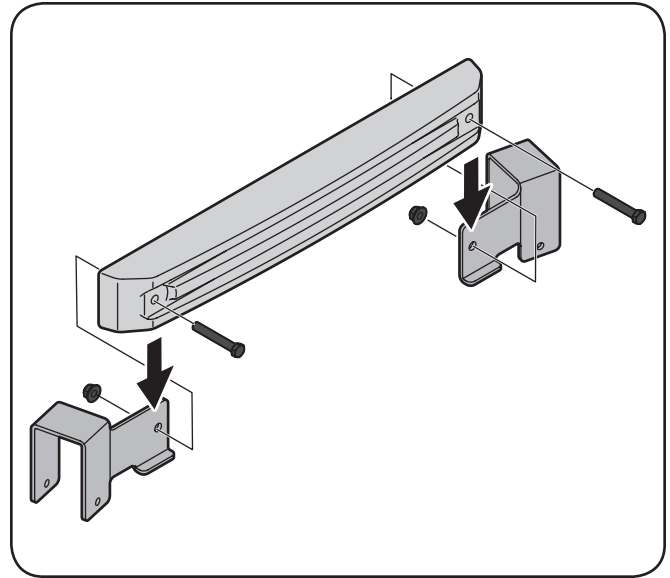

Figure 4-29
1. Attach the left mounting bracket and the right mounting bracket to the weight bar using two 2 1/2-inch screws (710-0859), and 3/8" flange nuts (712-04065) from hardware pack 689-00325. See Figure 4-29.